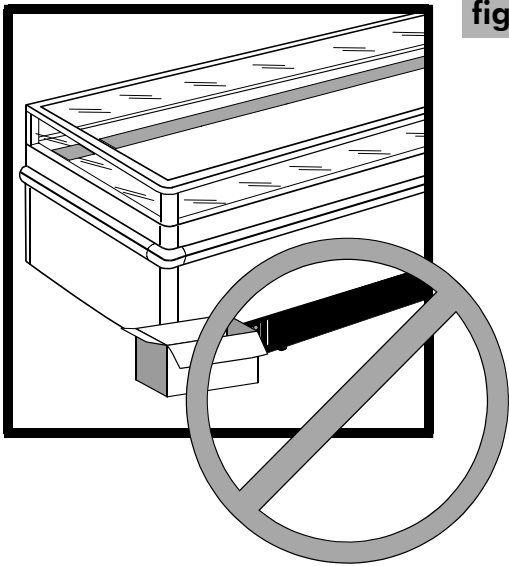

fig. 10
- not to obstruct the flow of air over the condenser (see fig. 10- page 5).